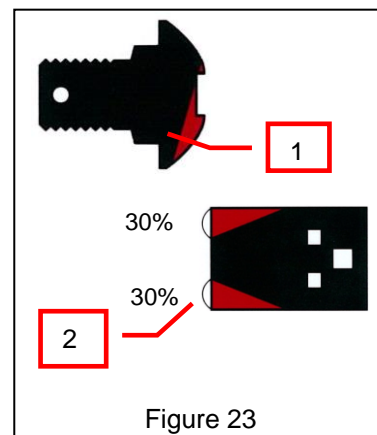

Figure 23
- When the Knife Bolt is worn on its head (1 Fig 23), it can cause serious accident, for example the Knife is flied away by Centrifugal force. Replace the Blade Bolt immediately when the dent disappeared. Also, Replace(or reverse) the Knife when it is worn up to 30% (2, Fig 23).